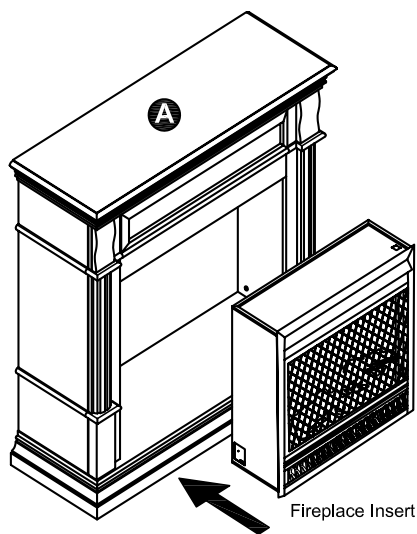

Figure 8
8. After assembling the mantel, lift to the upright position. Carefully, push the fireplace insert from the front of the mantel, as shown in Figure 8.